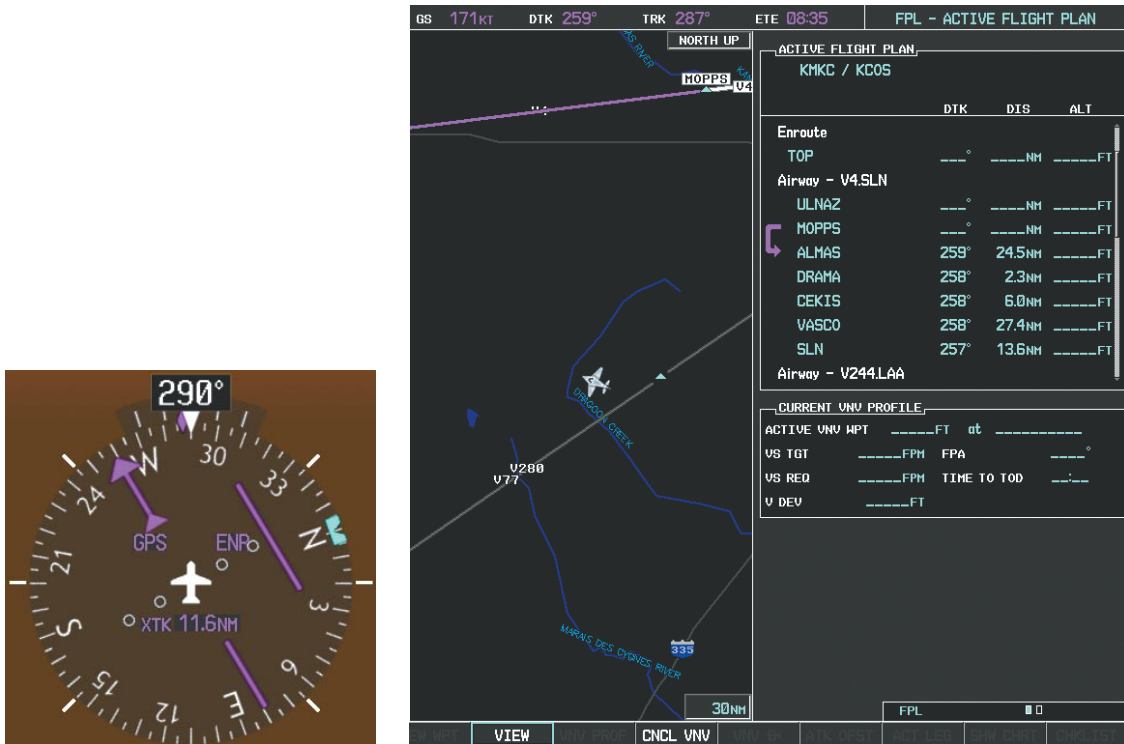

Figure 5-114 V4 Now Active Leg
- d) Verify the displayed leg is the desired leg and press the **ENT** Key. Note in Figure 5-114, the magenta arrow in the flight plan window and magenta line on the map indicating V4 is now the active flight plan leg. Note the phase of flight remained in Terminal (TERM) mode up to this point because a departure leg was active. Since a leg after the departure is now active, the current CDI flight phase is ENR (Enroute) and CDI scaling has changed to 2.0 nm.